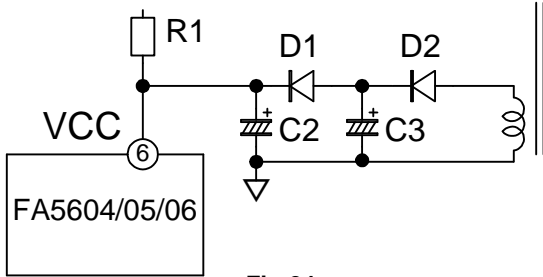
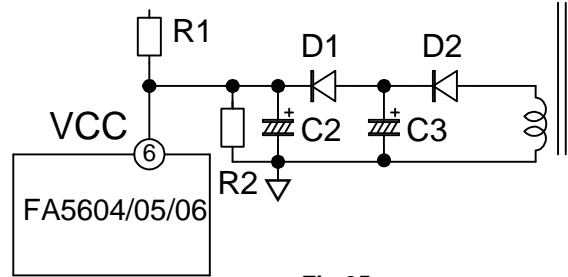

Fig.24
Fig.25
To shorten the startup period, the capacitor C2 or resistor R1 should be decreased. But in some case, such as when the load current of the power supply is changed rapidly, you may want to prolong the hold time of the VCC voltage over the VCC the OFF threshold. In this case, the capacitor C2 cannot be decreased and the resistor R1 should be decreased. But loss of the resistor R1 increases. In such case, the circuit shown in **Fig.24** and **Fig.25** is effective to shorten startup period without increasing the loss of the resistor R1. The capacitor C2 is decreased to shorten the startup period and, after the IC startup, VCC voltage supplied from C3 to prolong the hold time of the VCC voltage. The startup period of this circuit also is approximately given by the expression in (7) and (8).